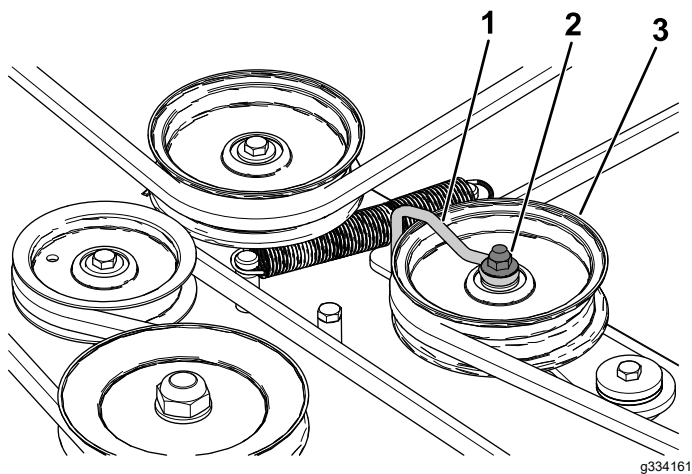

Figure 61
6. Loosen the nut securing the wire form to the idler pulley (Figure 61).
- Tighten the nut securing the wire form to the idler pulley (Figure 61).
Note: Position the wire form against the idler arm as shown in Figure 61.